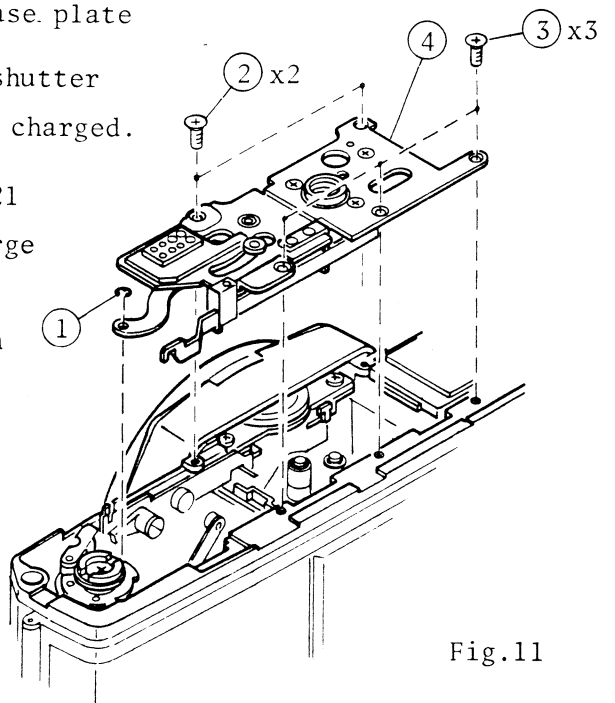

Fig.11
2. Put in order the M1100-14021 connector, M1100-14811 charge lever and M1100-1486T1 winding stop slide as shown in Fig.11.